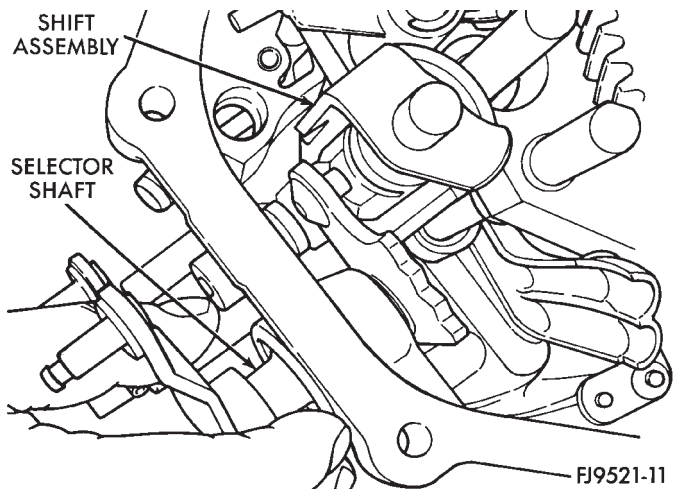

Fig. 49 Selector Shaft
(10) Pull the selector shaft shift pin out of the slot in the blocker assembly. Turn selector shaft up and out of the way (Fig. 49).